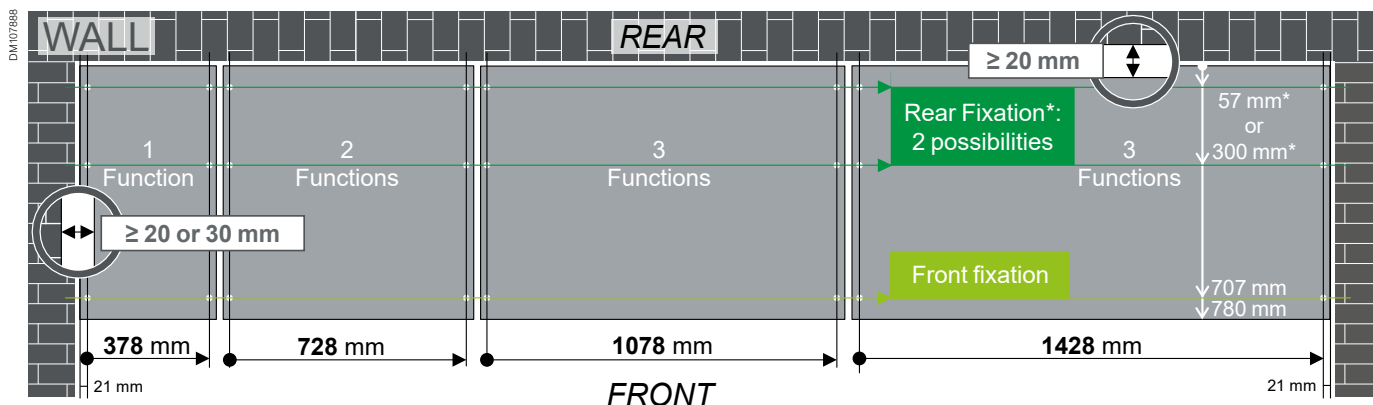

Fig. 1: principle top view diagram - electrical room dimensions and fixing points.
- The Fig. 1 and 2 provide the minimal distances and fixing principles required when RM AirSeT is **standalone**. When extensible RM AirSeT must be assembled, additional clearance are required (see next page)